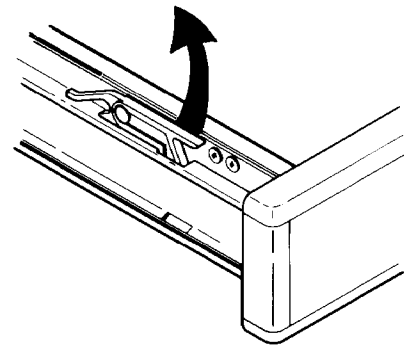

FIG. 1
1. Remove drawer from case by extending drawer to full length and lifting up on lock levers located on each side of drawer (Fig. 1). Drawer will easily lift out.